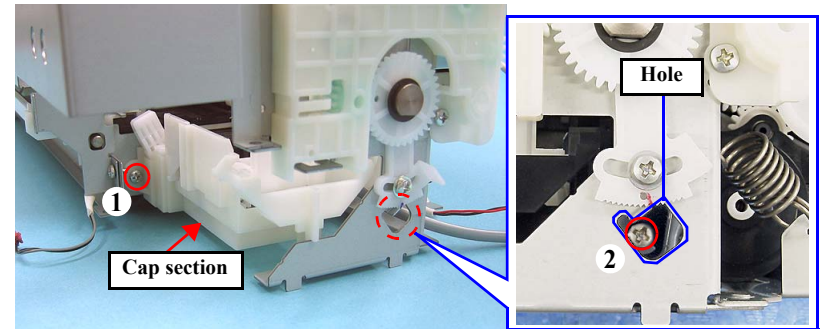

Figure 1-70. Removing the Ink System (1)
- Tighten the screws in the order given in Fig.1-70.